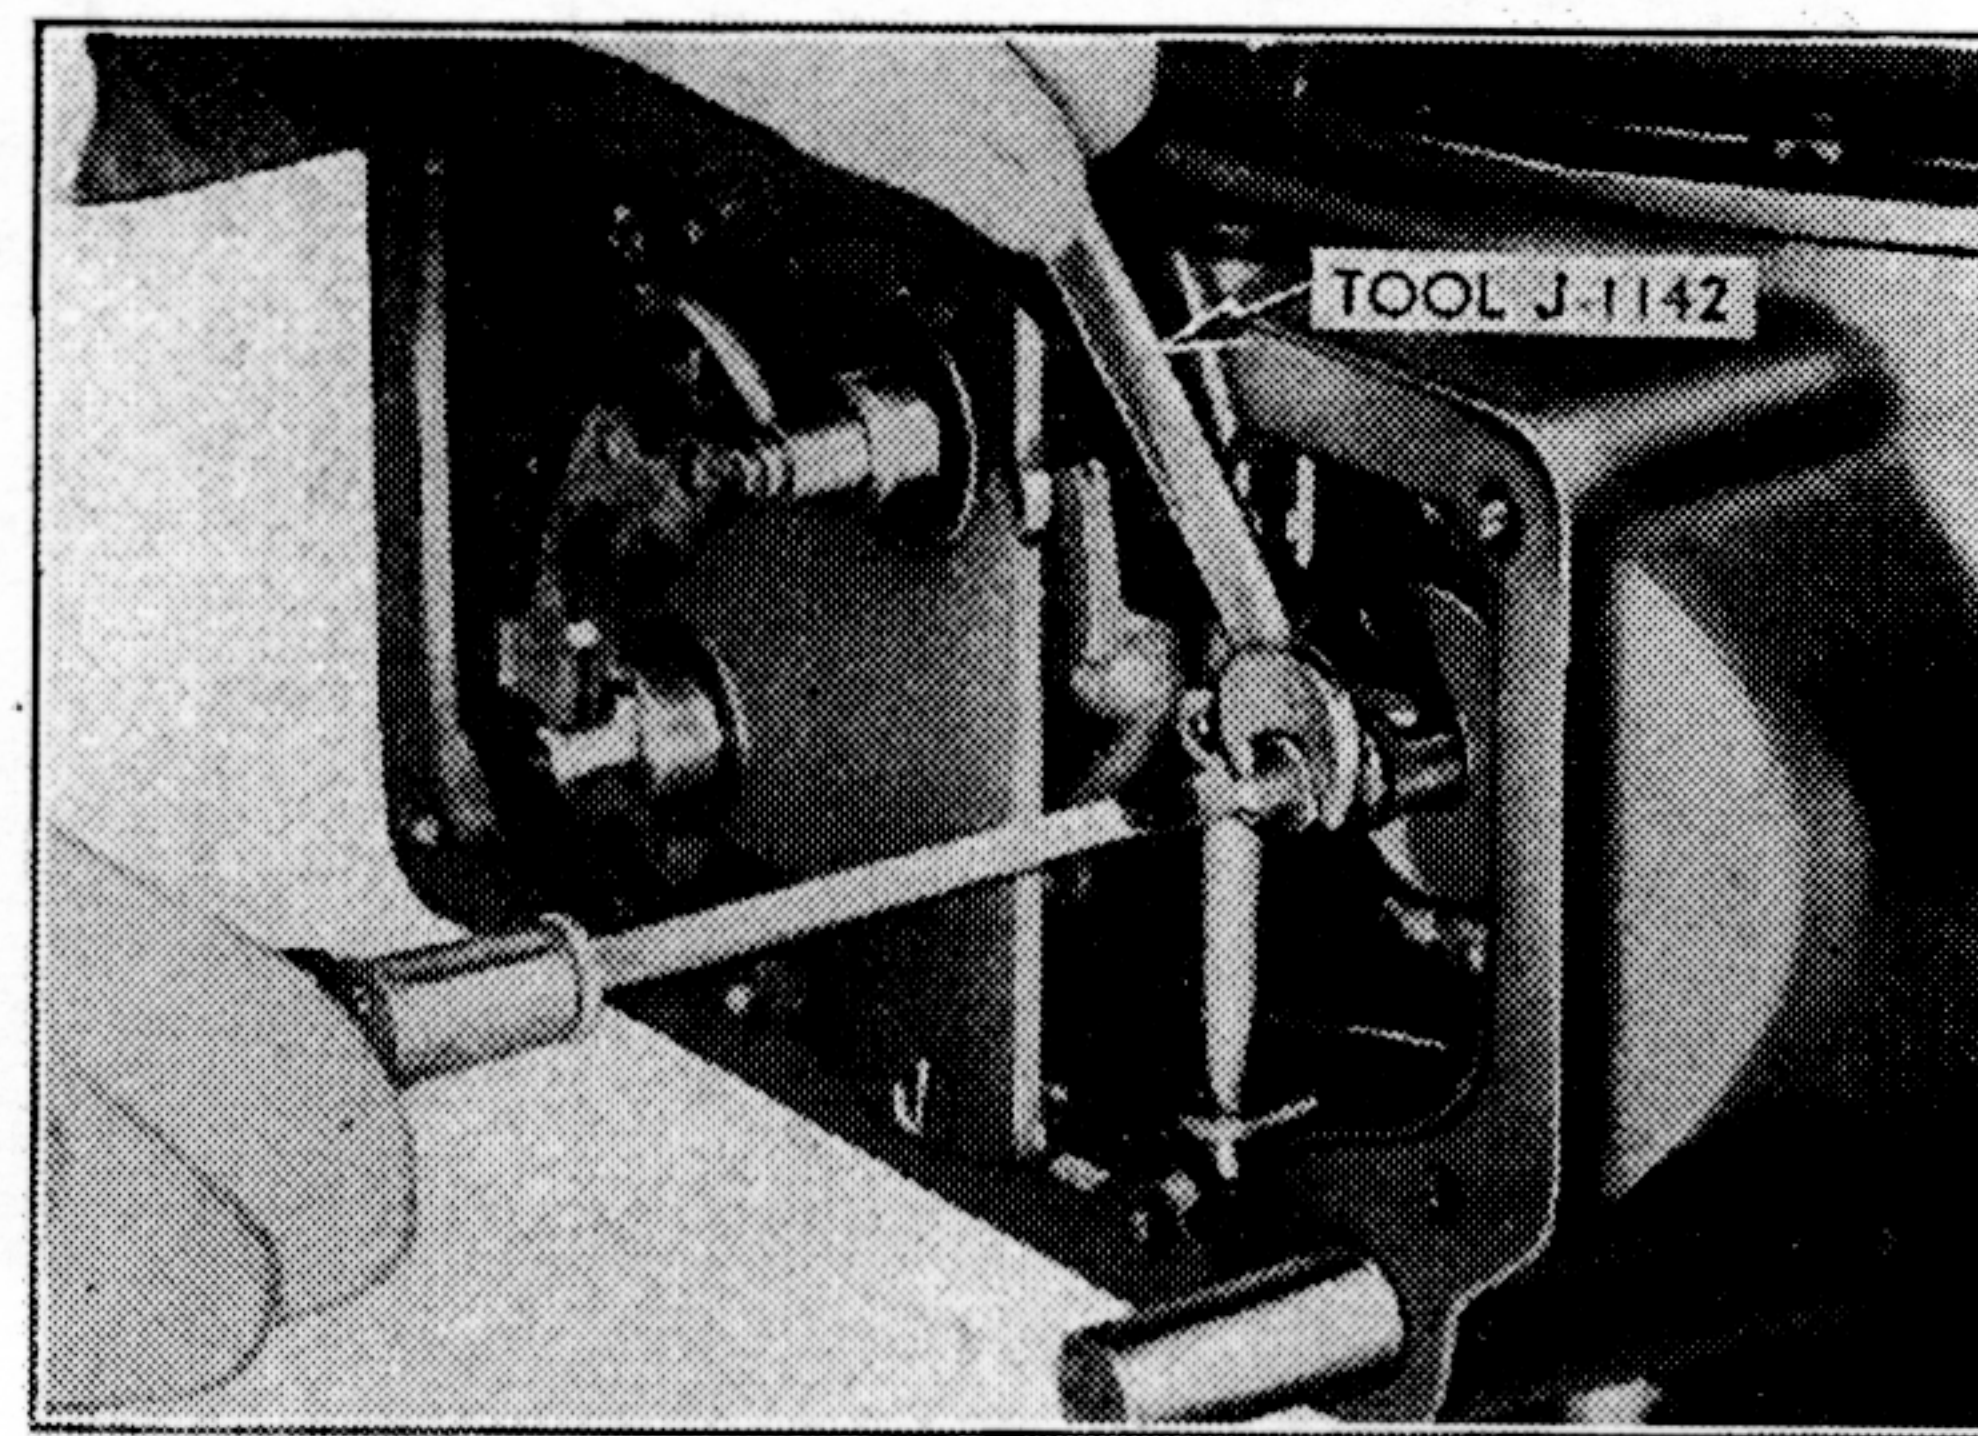

Fig. 24. Resetting Governor
3. To reset governor, pry open lock plate fingers under outer lock nut and set inner nut with tool J-1142 and screwdriver, see Fig. 24. New lock plate is required when governor is reset.
2. Hold inner nut with wrench, tool J-1142 (see Fig. 24) and insert screwdriver in slot at outer end of shaft. Turn shaft in a clockwise direction until front unit valve clicks to its open position. Then turn shaft in a counter-clockwise direction until valve *just* clicks to its closed position, then turn screw an additional seven-eighths turn. This procedure will bring the shifts very near center of travel.